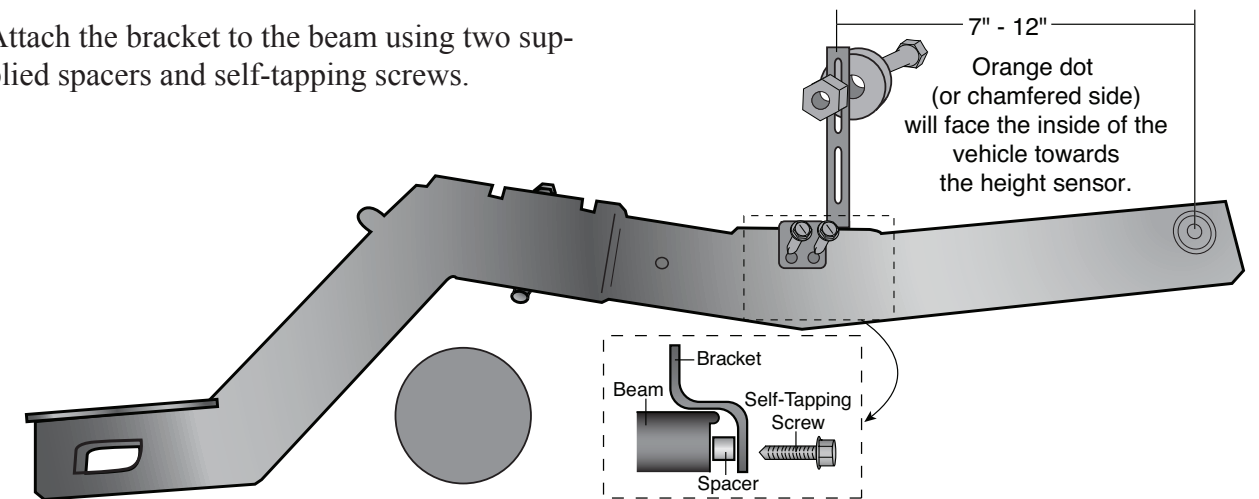

Figure 3
1. Place the magnet mounting bracket onto the beam with the base of the bracket facing towards the inside or outside of the vehicle (Figure 3).
3. Loosely attach the magnet to the bracket using the supplied bolt and nyloc nut (Figure 3).
4. Loosely attach the magnet to the bracket using the supplied bolt and nyloc nut (Figure 3).